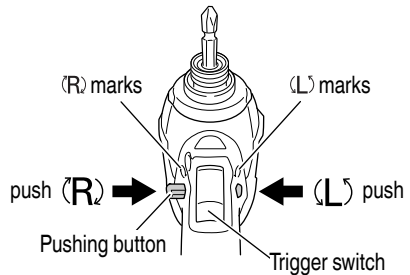

Fig. 10
- The L-side of the pushing button is pushed to turn the bit counterclockwise (See Fig. 10).
- (The (L) and (R) marks are provided on the body.)